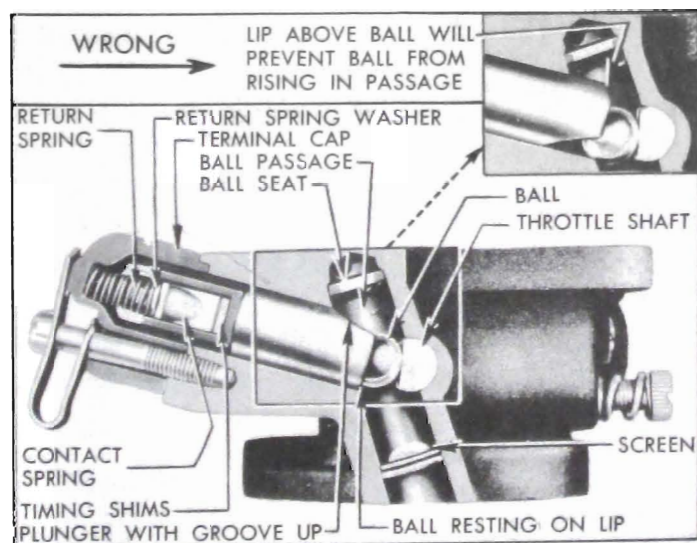

Figure 10-28—Assembly of Carter Accelerator Vacuum Switch
8. Place plunger in position with the groove up so that the ball rests on lip at inner end of plunger. See figure 10-28. If the plunger is installed with groove down, the ball will be prevented from rising into the ball passage when
9. Make sure that all timing washers, contact spring, and the return spring washer are in proper position before installing the return spring and terminal cap. Make sure that terminal cap is properly seated. See figure 10-28.